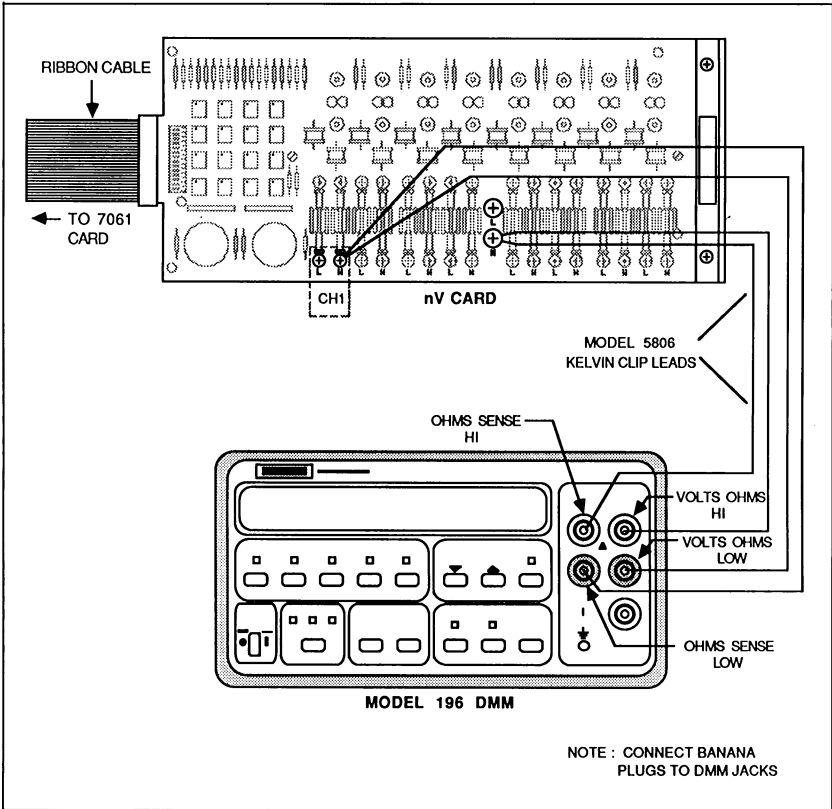

Figure 4-3. Connections for Contact Resistance Verification (Channel 1 shown)
7. Connect the DMM to the Model 7168, as shown in Figure 4-3. The Model 196 input LO and ohms sense LO should be connected to the H (high) terminal of the channel being tested. Connect the Model 196 input HI and ohms sense HI to the HI output terminal of the Model 7168.